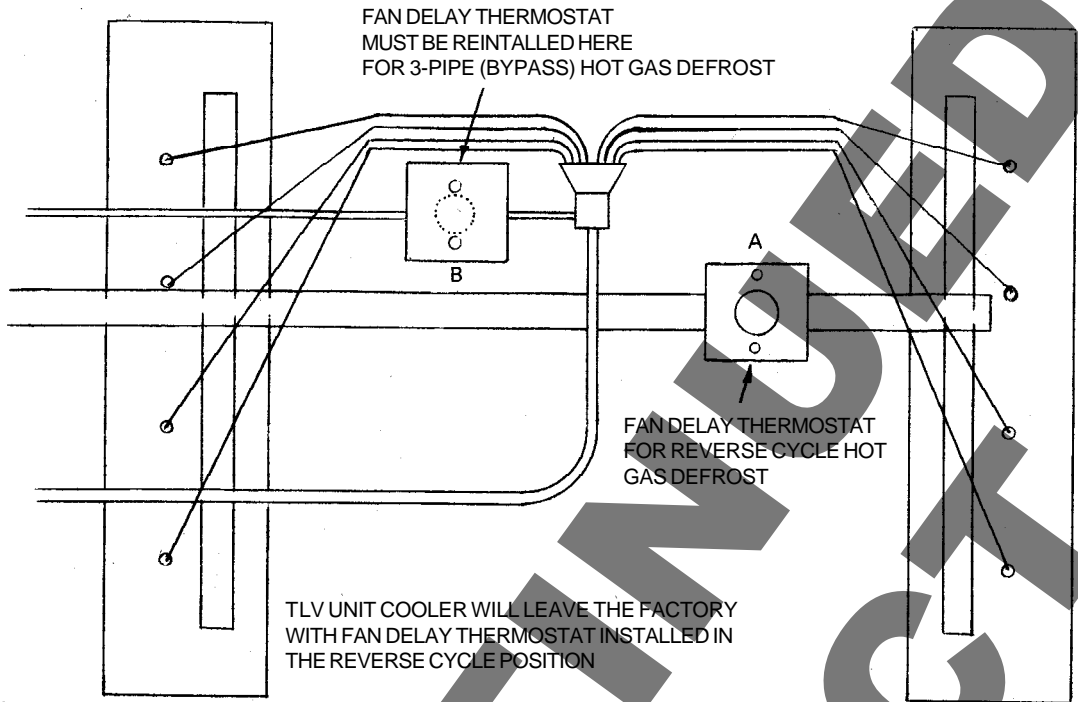

FIGURE 1
3. Fan delay control is factory installed on suction line for reverse cycle defrost operation. Refer to Fig. 1 Location A.
4. If coil is to be used for Hot Gas Defrost with the distribution by-pass method, fan delay must be moved from suction line to hot gas inlet line. Refer to Fig. 1, Location B.